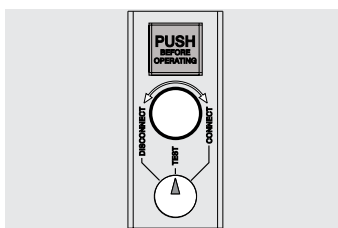

Figure 65
- circuit-breaker in test position (see Figure 65).